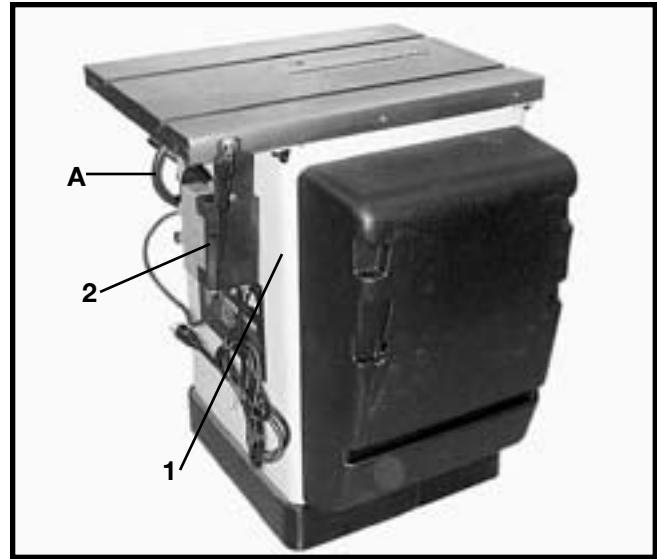
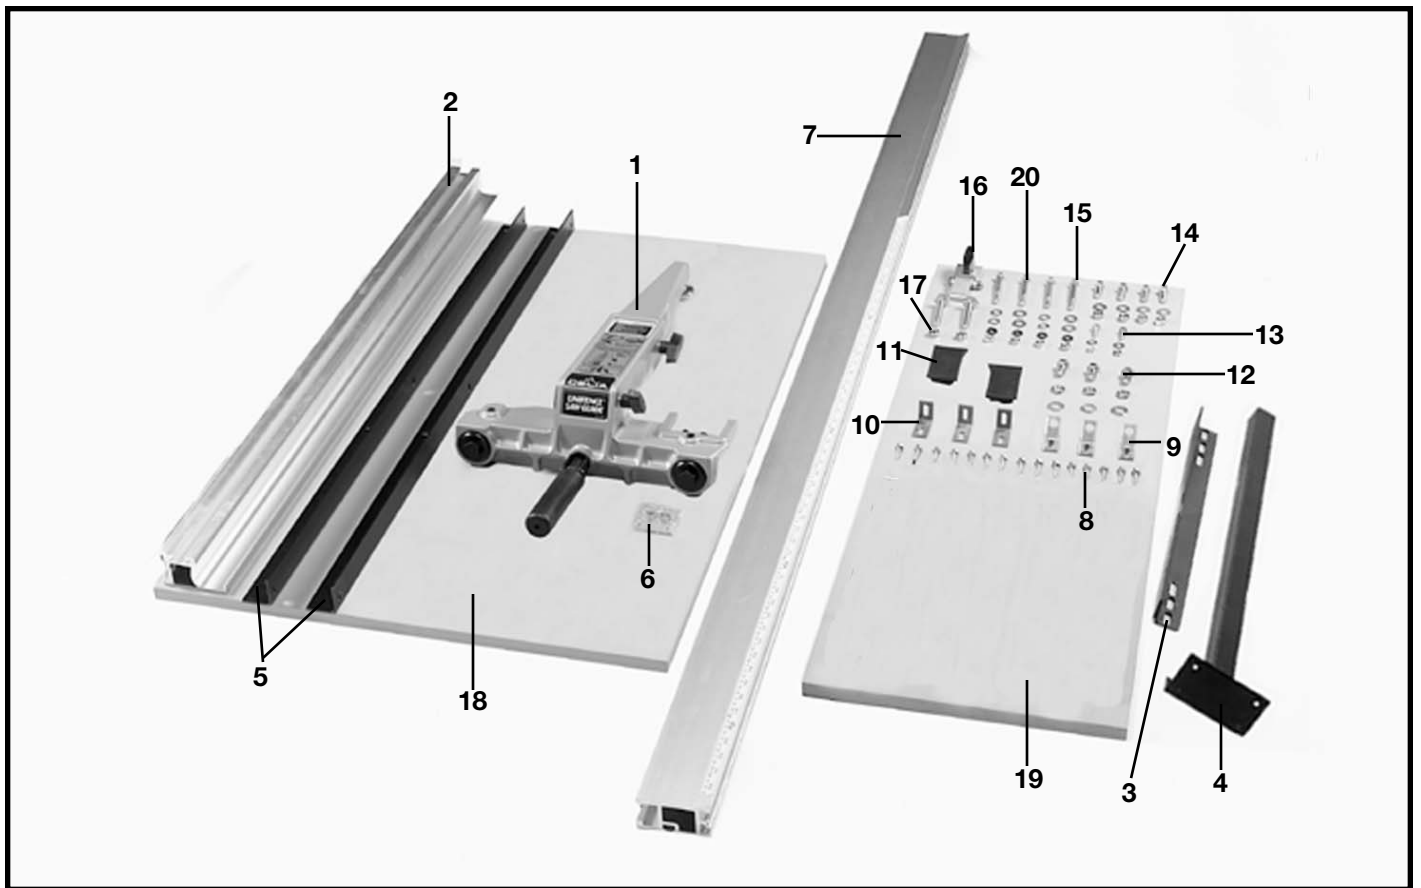

Fig. 1
Fig. 3
Carefully unpack the machine and all loose items from the shipping container(s). Remove the protective coating from all unpainted surfaces. This coating may be removed with a soft cloth moistened with kerosene (do not use acetone, gasoline or lacquer thinner for this purpose). After cleaning, cover the unpainted surfaces with a good quality household floor paste wax. Figures 1 and 2, illustrate the saw and all loose items supplied with the machine. Figs. 3, 4, and 5, illustrate the items supplied with the fence system.
IMPORTANT: The saw is shipped with the saw arbor in the 45 degree position. **NOTE: THE HAND WHEEL MUST BE ASSEMBLED TO THE SAW, SEE THE SECTION "ASSEMBLING BLADE TILTING MECHANISM", THEN PROCEED WITH THE FOLLOWING.** Loosen locking knob on the handwheel (A) Fig. 1, and turn handwheel until the saw arbor is in the 90 degree position and remove the styrofoam packing from inside the saw cabinet. Tighten locking knob.